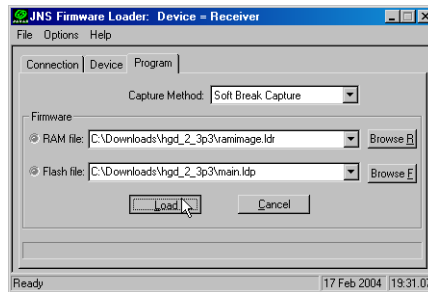

Figure 4-16. Program Tab Settings
8. Select the **Program** tab and set the Capture Method to Soft Break Capture (recommended) (Figure 4-16).
9. Browse for and select the receiver board's RAM file and Flash file (Figure 4-16).